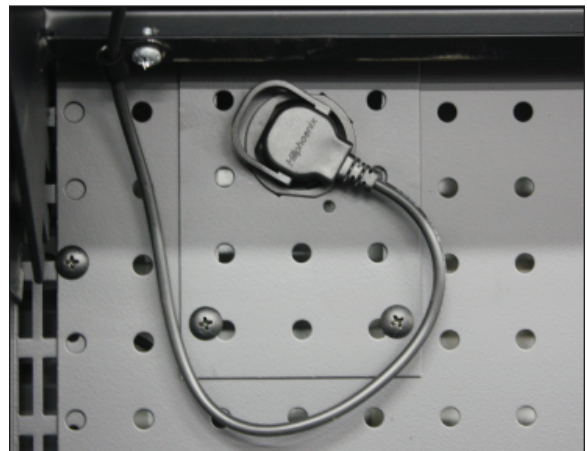

Fig. 6 LED light power cord
1. Unplug the luminaire (Fig. 6).